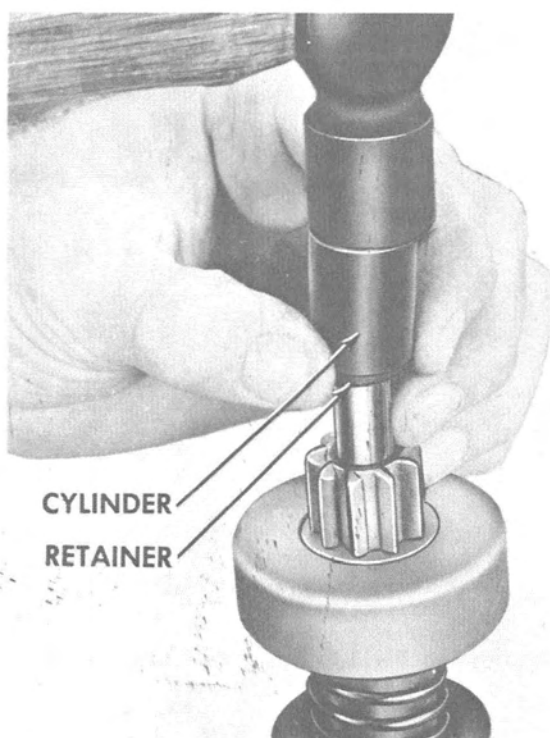

Figure 6. Removing Stop Collar
- a. Slide a pipe coupling or other metal cylinder onto shaft so that end of coupling or cylinder butts against edge of pinion stop collar, as shown in Figure 6.
- b. Tap end of coupling or cylinder to drive stop collar toward armature and off snap ring. (Figure 6)